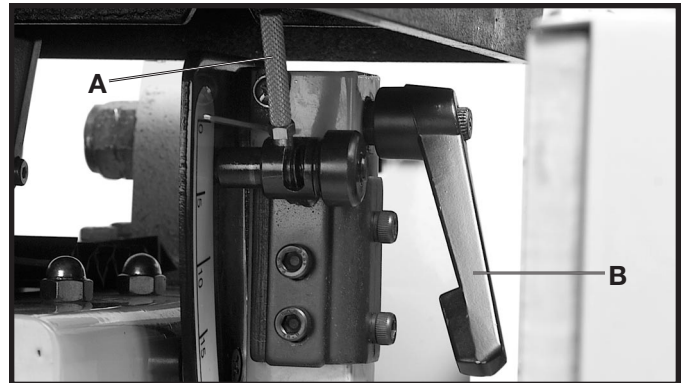

Fig. 40
4. Loosen ratchet handle (B) Fig. 40.
**NOTE: THE DETENT LOCK PIN (A) FIG. 40 ALLOWS FOR QUICK ADJUSTMENTS TO 0 DEGREES, 45 DEGREES, AND 90 DEGREES TO THE TABLE.**